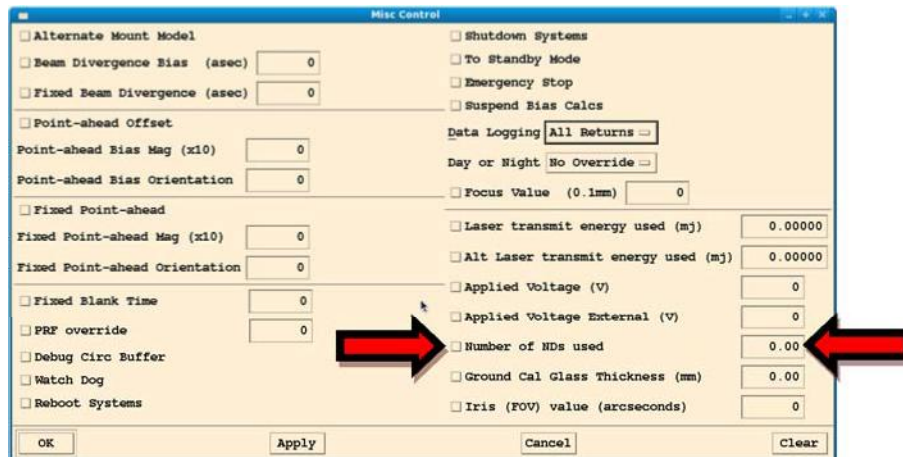

Figure 8-14: The Misc Control window showing All Returns selected
1. **Remove ND’s using the Rotary ND wheels** (Figure 8-14)